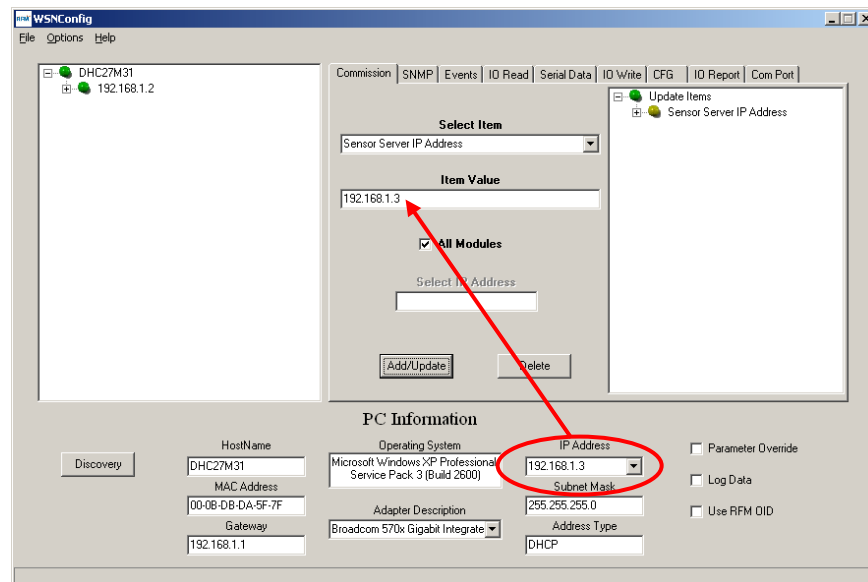

Figure 8.3.4
7. Select *Sensor Server IP Address* from the *Select Item* drop-down box on the WSNConfig.exe *Commission* tab. Enter the IP Address from the *PC Information* area in the *Item Value* text box. Then click the *Add/Update* button. See Figure 8.3.4. This action configures the WSN802G module to send its periodic I/O_READ data to the PC running WSNConfig.exe.